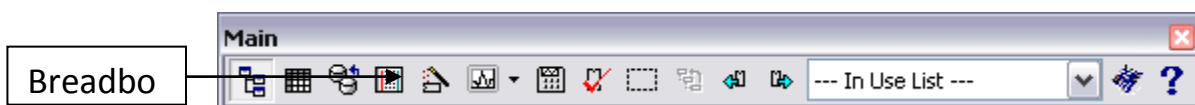
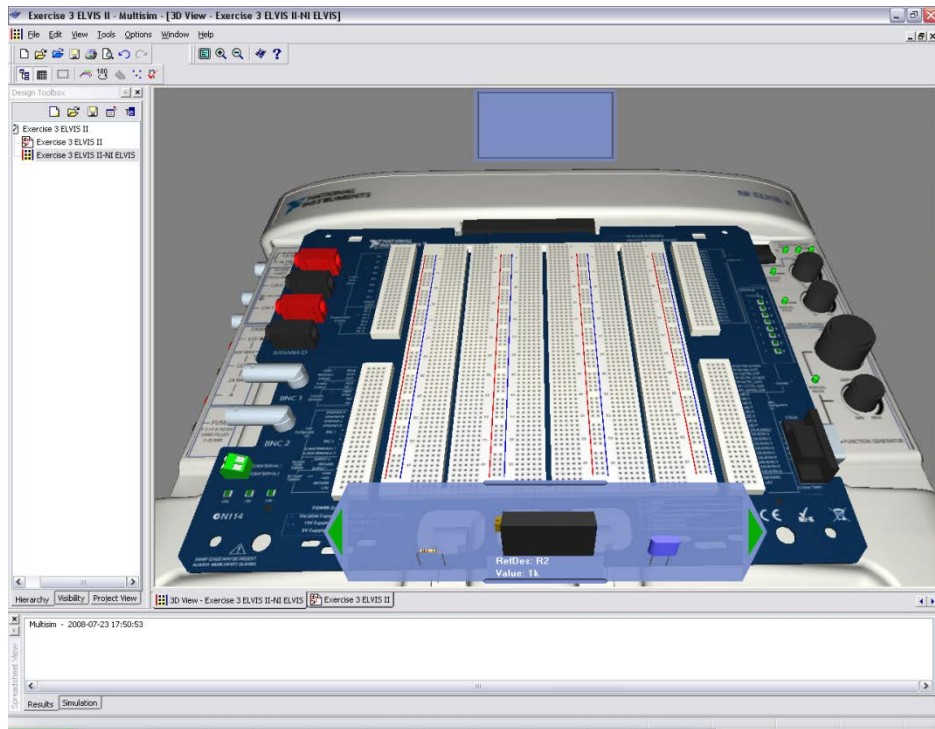

Figure E3-1. Breadboard Icon
Figure E3-2. 3D NI ELVIS II Prototyping Environment
2. From the Main toolbar, click the **Breadboard** icon to open the 3D NI ELVIS prototyping environment. The icon is shown in Figure E3-1, and the 3D environment is depicted in Figure E3-2.